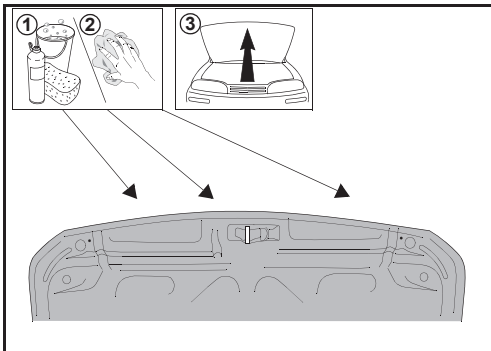

Figure 1. Cleaning hood areas
1. Thoroughly clean the front of the hood with mild soap and water. Dry hood with clean dry towel. Clean same area of hood with 90% Isopropyl Alcohol and paper towel. Allow to dry. Raise the hood as shown in figure 1.